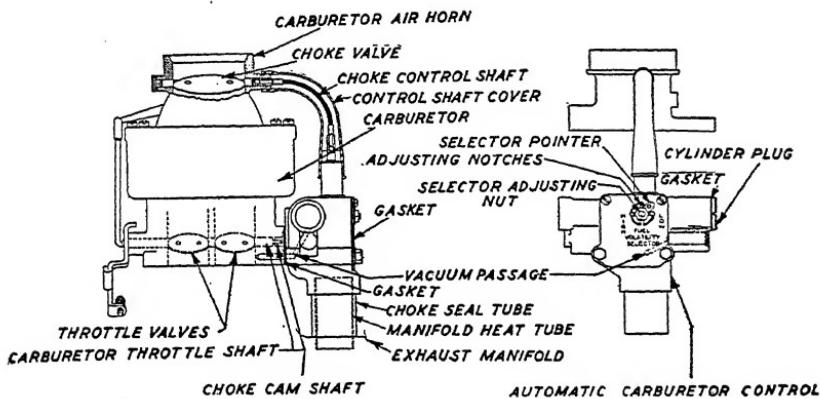
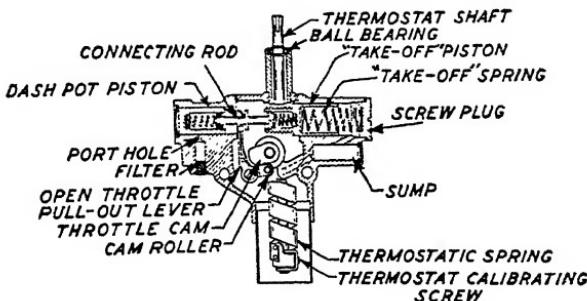

Fig. 110. Delco-Remy Automatic Opposed Piston Type Carburetor Control
Fig. 111. Sectional View of Delco-Remy Carburetor Control Showing Pistons
**Delco-Remy Opposed Piston Type.** This type of Delco-Remy Automatic Carburetor Control is mounted on the back side of the carburetor above the exhaust manifold. Fig. 110 shows how the control is mounted in relation to the carburetor and also the interconnections between the control and the carbureting system. The purpose of the carburetor control is to maintain automatically the correct fuel mixture in the carbureting system under varying temperature conditions both inside and outside the engine.
The operation of the automatic carburetor control is governed by variation of manifold temperature, intake manifold vacuum, carburetor air inlet velocity, and throttle opening. The "choking" action is obtained by means of a choke valve in the carburetor air horn which is connected directly to the control shaft shown in Fig. 110. Each of the four factors affecting the operation of the control will be considered separately. It must be remembered that in actual operation all four of these factors may be working together to produce the desired result.
shown in Figs. 110 and 111. The other end of the thermostatic spring is connected through a gear and rack to a spring loaded vacuum piston which is operated by a manifold vacuum. The thermostatic spring is so wound that with decreasing temperature it tends to close the choke valve and with increasing temperature it tends to open the choke valve. The control is mounted so that one end of the thermostat extends into a heat tube on the exhaust manifold. This feature allows changes in manifold temperatures to be quickly transmitted to the control unit mechanism. The thermostatic spring is calibrated so that the proper "choking" action is obtained at various operating temperatures. At temperatures of
**Intake Manifold Vacuum.** The amount of vacuum in the intake manifold of the engine varies with the amount of load on the engine. When the engine is pulling heavily, the amount of vacuum is much smaller than when there is little or no pull on the engine. This variation in vacuum is used to operate the "take-off" piston in the control unit, as shown in Figs. 110 and 111. When there is little or no vacuum being created in the engine manifold, the take-off piston is held forward toward the center of the control unit by the
**Throttle Opening.** The carburetor throttle shaft is connected directly to the choke camshaft, as shown in Fig. 110. Thus, the movement of the throttle is transmitted through the choke cam-shaft, throttle cam, cam roller, and pull-out lever to the connecting rod and linkage between the "take-off" piston and dashpot piston. The movement somewhat modified by the other controlling factors, according to operating conditions, passes through the gear and rack, thermostat and shaft to the choke valve. This action is not transmitted to the choke valve immediately due to the retarding action of the dashpot piston. The movement of the throttle cam loads the pull-out lever spring and the tension of this spring on the pull-out lever gradually moves the dashpot piston forward in its cylinder. See Fig. 111. The port hole in the dashpot piston cylinder allows
**Fuel Volatility Selector.** The fuel volatility selector is provided to take care of variations in fuel volatility encountered in various brands of fuel. The adjusting mechanism is located on the cover plate and adjustments can be made without disassembling the control unit. The selector pointer for regular gasolines is set as shown in Fig. 110. That is, one notch from extreme "low" volatility. The three notches toward the "high" position provide ample adjustment to cover the most volatile brands of gasoline, if the car owner prefers to use them. When the choke is adjusted for highly volatile fuels, the adjustment will be too lean for regular blends, and will cause "popping" or "spitting." Whenever the adjustment is changed, this fact should be explained to the owner. Setting the selector in
**Check Control on Car.** If the engine is not operating as it should and the carburetor control is thought to be at fault, the unit should be checked on the engine. Such a check will definitely determine if the trouble is in the control or whether it should be looked for elsewhere about the engine. Since the moving parts of the control are completely enclosed, it is necessary to remove the air cleaner to check the action of the unit on the engine. With the air cleaner removed, it is possible to observe the action of the choke valve, Fig. 110. The following observations should be made before the unit is removed from the engine. First, the choke valve should be free and when opened or closed manually should return to its original position. With the engine cool and stopped, push the throttle wide open. After a delay of 7 to 10 seconds the choke valve should slowly move toward the open position. Close the throttle and the choke valve should return at once to its original position. If the action described above is not obtained, a check should be made for binding or sticking pistons.
the moving parts as shown in Fig. 111. It is very important that moving parts be free and that pistons are clean and do not stick in the cylinders.